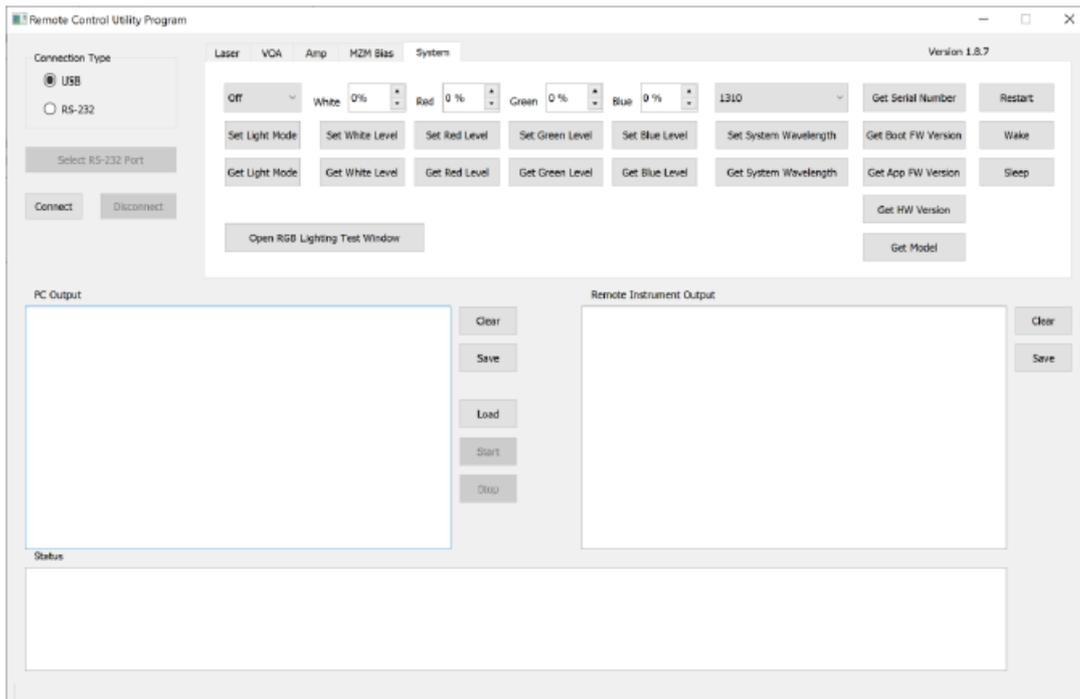

Figure 13 System Tab
- The functions in the System tab (Figure 13) correspond to the commands described in Section 2.5: System